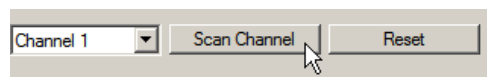

Figure 13: L-DALI Configuration Software, Scan Channel
1. Select the DALI channel and click on the **Scan Channel** button shown in Figure 13.